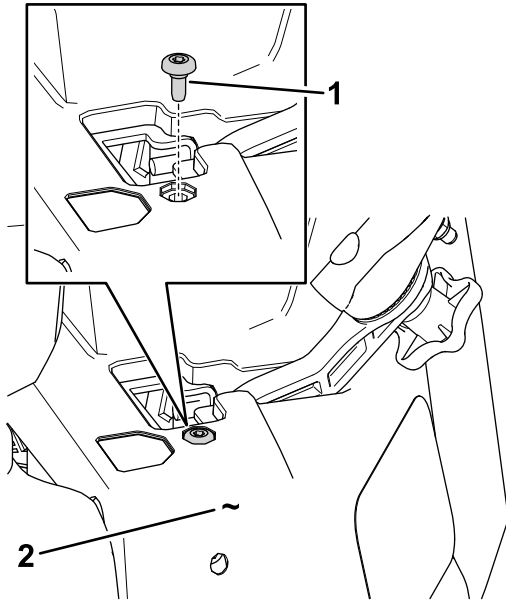

Figure 6
1. Remove the existing shoulder screw that secures the left pod the machine (Figure 6).